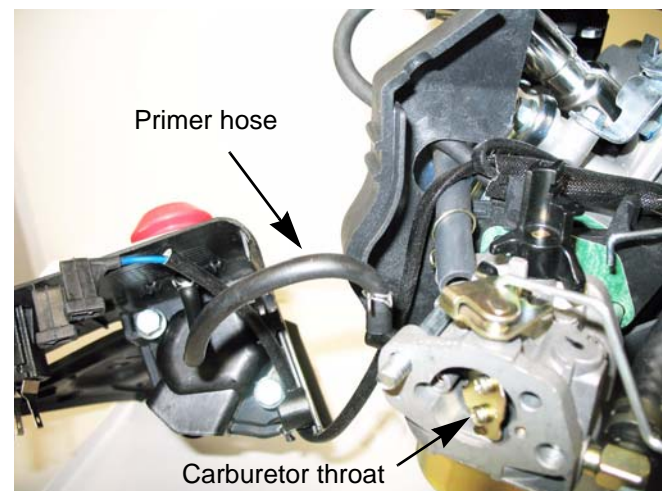

Figure 4.12
2. Reconnect the primer hose to the carburetor. See Figure 4.12.